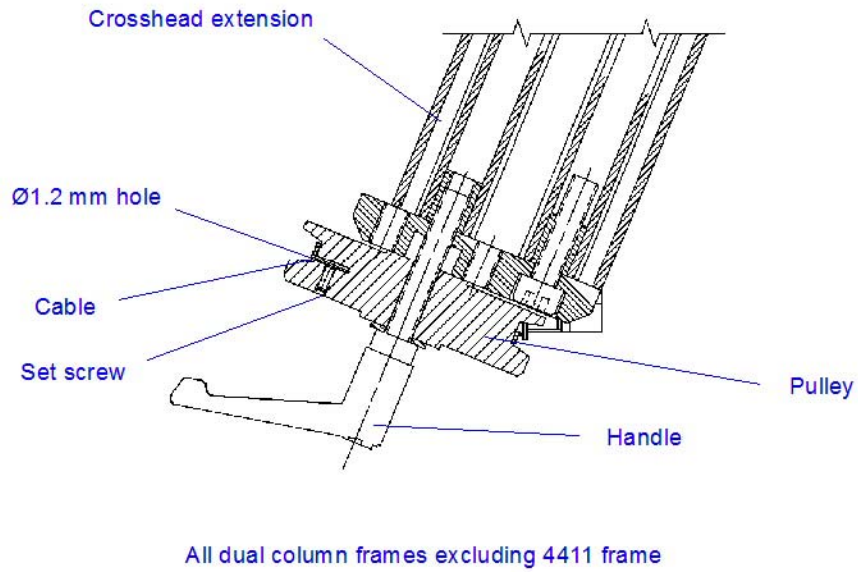

Figure 6. Attaching the Cable to the Upper Pulley
2. Secure the cable to the upper pulley by inserting the loose end into the hole on the pulley (1.2 mm diameter). Secure the cable with a set screw using the hex key that is provided. See Figure 6 on page 28.
2. Secure the cable to the upper pulley by inserting one cable end into the hole on the pulley (1.2 mm diameter). Secure the cable with a set screw using the hex key that is provided. See Figure 6 on page 28.